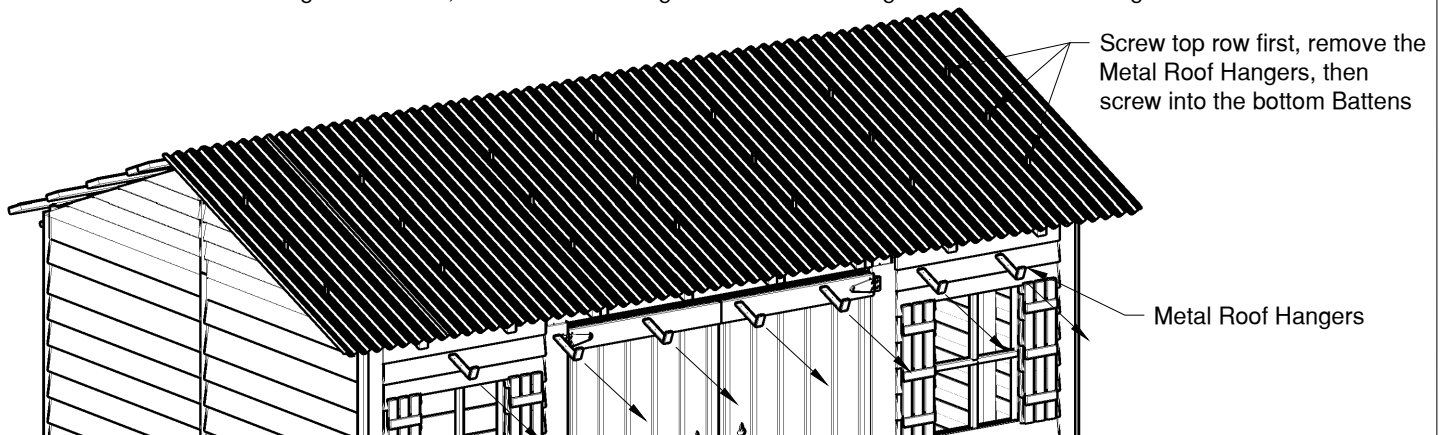

FIGURE S8
- Locate the Metal Roof Panels and Metal Roof Hangers. To temporarily hold the Metal Roof Panels in place, hook a Metal Roof Hanger onto the lowest Batten, approximately where the center of the panels will be, 2" from the rafter tail. Place the first Metal Roof Panel onto the Battens and into the Metal Roof Hanger. Do not fasten panels down until Figure S8. Place remaining panels and hangers on Battens the same way. Metal Roof Panels will overlap each other. Figure S2
- Remove the Metal Roof Hangers from roof, then finish fastening the Metal Roof Hangers with the screws. Figure S8